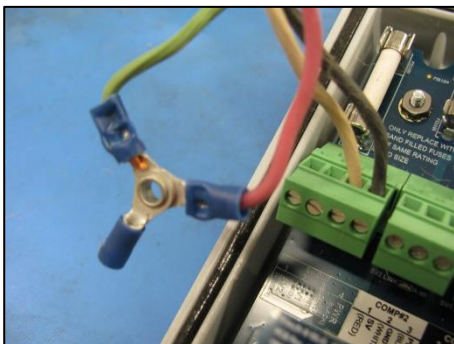

Figure 2-6-8B, Connect Red & Green to 3 way connector
- ii) Connect Power and Ground (Black & White Wires) to the SV out terminal strip and connect the Red & Green to a 3-way connector as shown in Figure 2-6-8B.